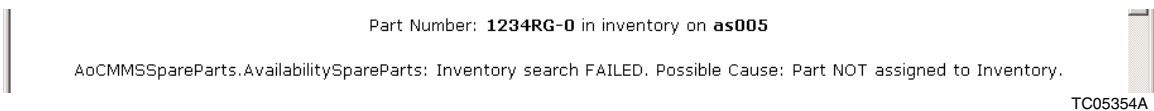

Figure 34. Availability of Spare Parts Error Message (Maximo Integration)
4. To view the availability of spare parts, click on the desired hyperlink in the **Item Number** column and an 800xA System Availability of Spare Parts view appears. If the part selected was not assigned to inventory, the error message shown Figure 34 appears.